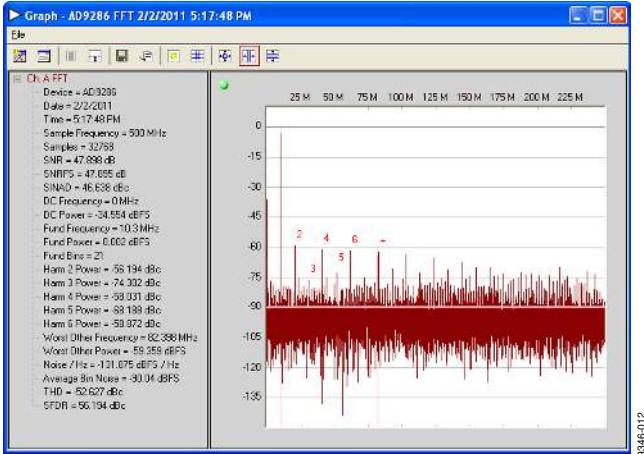

Figure 12. Graph Window of VisualAnalog
1. Adjust the amplitude of the input signal so that the fundamental is at the desired level (examine the **Fund Power** reading in the left panel of the **VisualAnalog Graph - AD9286 FFT** window). See Figure 12.